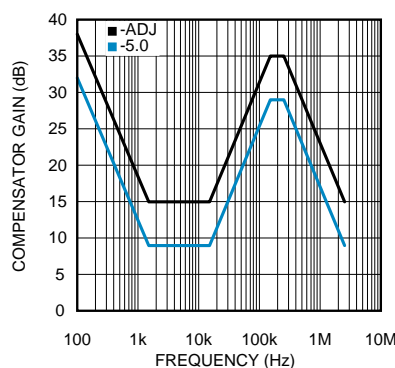

Figure 11. Compensator Gain
The complete transfer function for the regulator loop is found by combining the compensation and power stage transfer functions. The LM22676 has internal type III loop compensation, as detailed in Figure 11. This is the approximate "straight line" function from the FB pin to the input of the PWM modulator. The power stage transfer function consists of a dc gain and a second order pole created by the inductor and output capacitor(s). Due to the input voltage feedforward employed in the LM22676, the power stage dc gain is fixed at 20 dB. The second order pole is characterized by its resonant frequency and its quality factor (Q). For a first pass design, the product of inductance and output capacitance should conform to Equation 3.